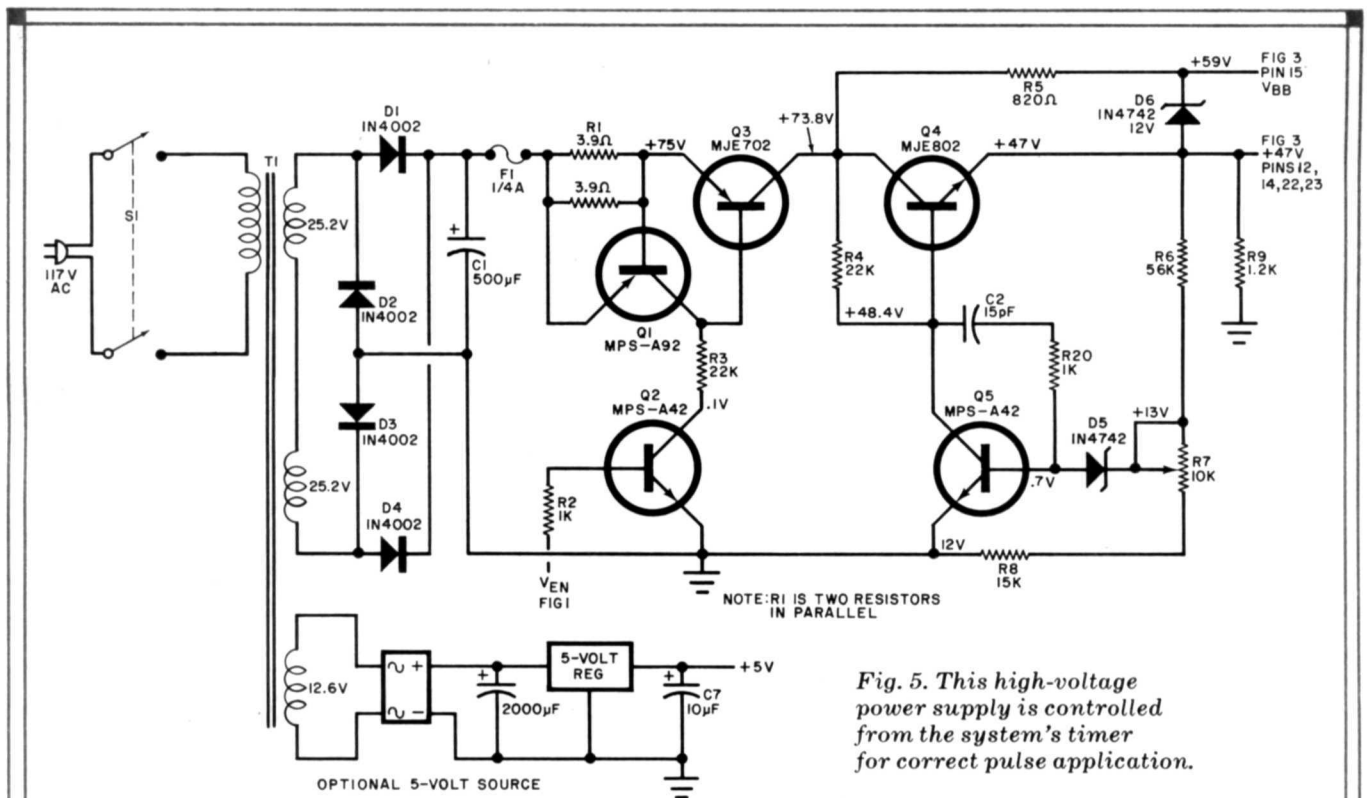

Fig. 5. This high-voltage power supply is controlled from the system's timer for correct pulse application.
- Note—See Parts List for Fig. 5 for availability of kits.
Note—See Parts List for Fig. 5 for availability of kits.
Power Supply. The supply (Fig. 5) delivers approximately +75 volts to a transistor switch/current limiter consisting of Q1, Q2, Q3, R1, R2 and R3. Transistors Q4 and Q5, in conjunction with
After double checking the wiring (and pc board), adjust potentiometer *R7* to its maximum series resistance, then temporarily jumper the collector of *Q2* (Fig. 5) to ground to enable the regulator. Apply ac power to the high-voltage and 5-volt power supplies and check for the presence of +75-volt dc across filter capacitor *C1*. If necessary, reverse the secondary connections.
Using a dc voltmeter of known accuracy, monitor the voltage across *R9* (Fig. 5) and adjust *R7* to obtain +47 ±1 volts. Leave the voltmeter connected across the 47-volt line.